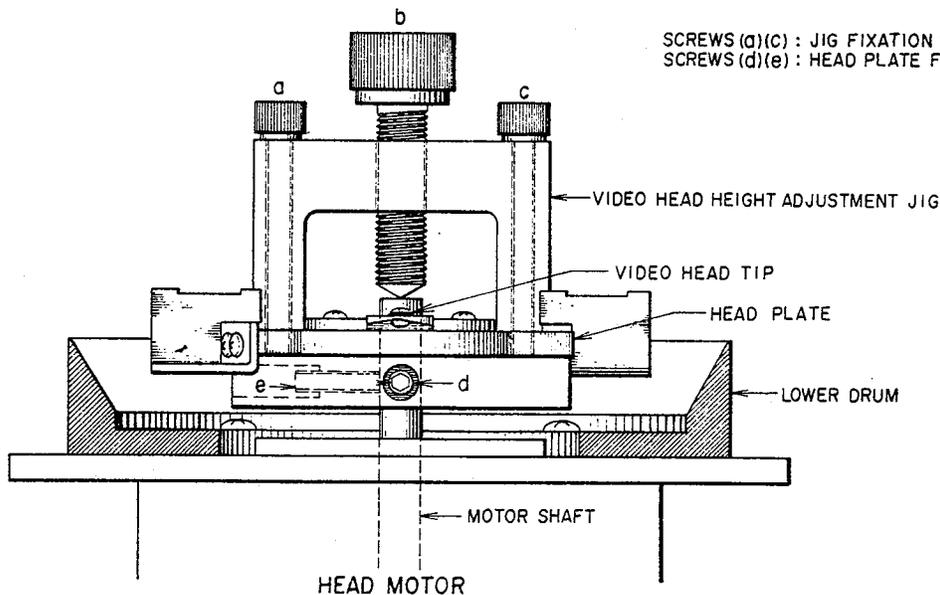

Fig. 7 Video Head Height Adjustment
- (a) Fit the head height adjustment jig to the head plate (made for angle and protrusion adjustments). As per Fig. 7 and 8, fit head plate to upper part of head motor (Screw (b) of height adjustment jig should be at lowest position).
- (d) Fit the Head Height Adjustment Jig to the head plate and fix the head plate to motor shaft at position at which the lower end of the head tip is  $10\ \mu$  to  $20\ \mu$  below the center line of microscope B (Refer to Fig. 7).